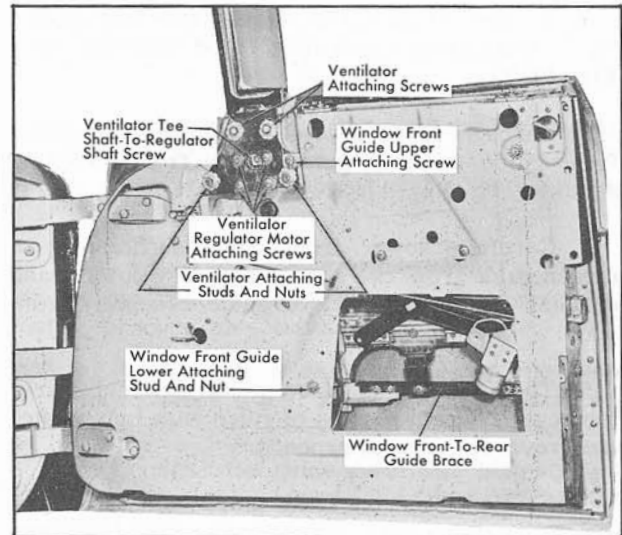

Fig. 17-34 Door Ventilator Attachment
3. Remove ventilator attaching studs and nuts and attaching screws, Fig. 17-34.
(43) Front Door Ventilator Adjustment
3. Loosen ventilator attaching screws and stud nuts, Fig. 17-34.
3. Remove ventilator tee shaft attaching screw, Fig. 17-34.
(45) Front Door Window Rear Run Channel Assembly Removal and Installation